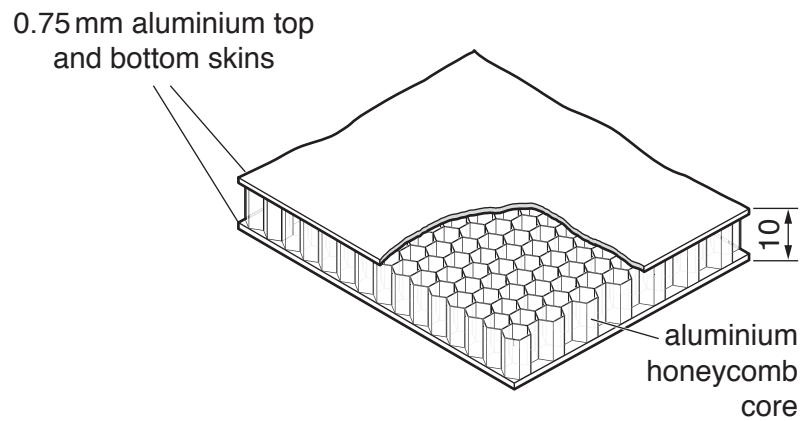

Fig. 9
- (e) Fig. 9 shows a piece of aluminium honeycomb sheet of the type commonly used in aircraft manufacture.